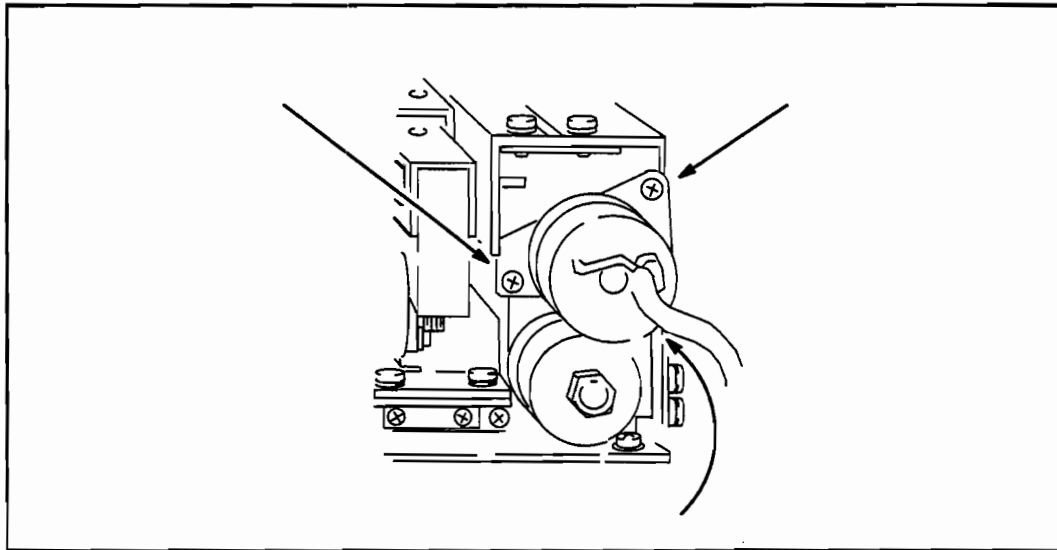

Figure 6-80. Cutter Roller Motor
5. Remove the 3 screws securing the motor assembly to the plotter. See Figure 6-80.